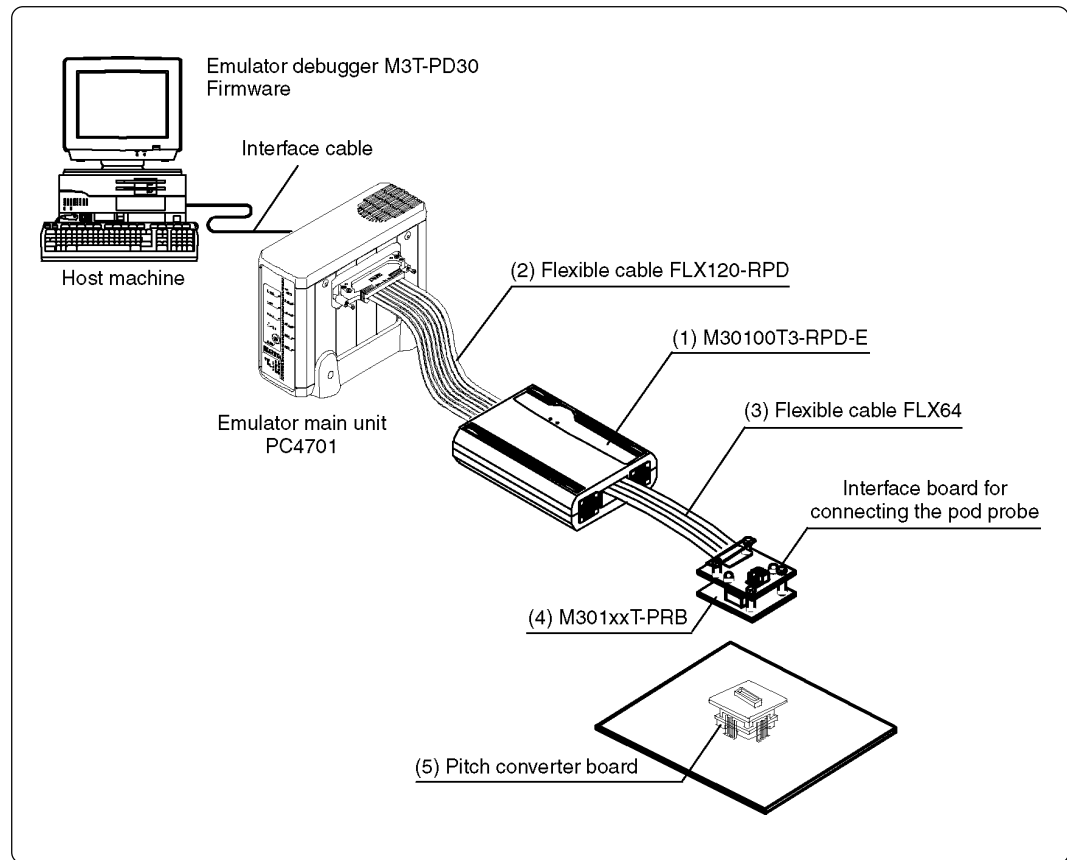

Figure 2.1 System configuration
(1) to (3) in Figure 2.1 are included in this product package.